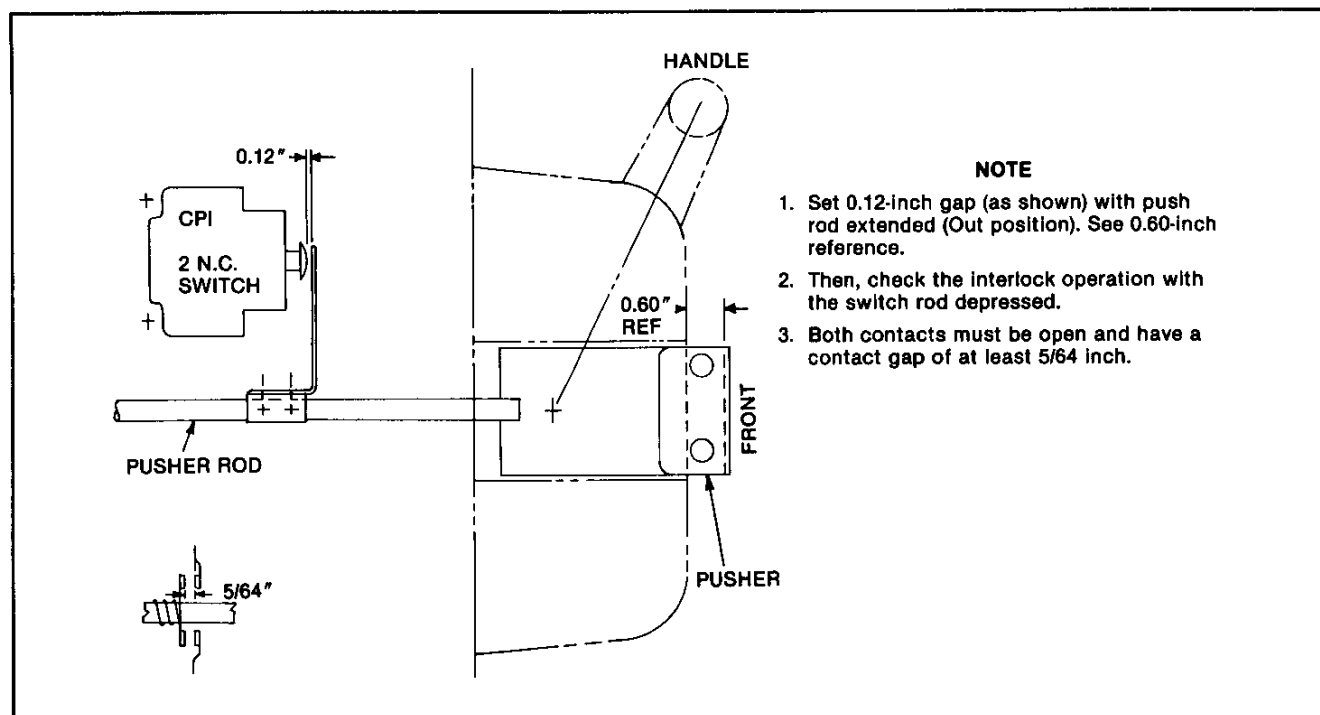

Figure 57. Checking for proper operation of pusher rod and control power interlock operation.
2. Check for proper operation of pusher rod and control power interlock operation. See Figure 57.